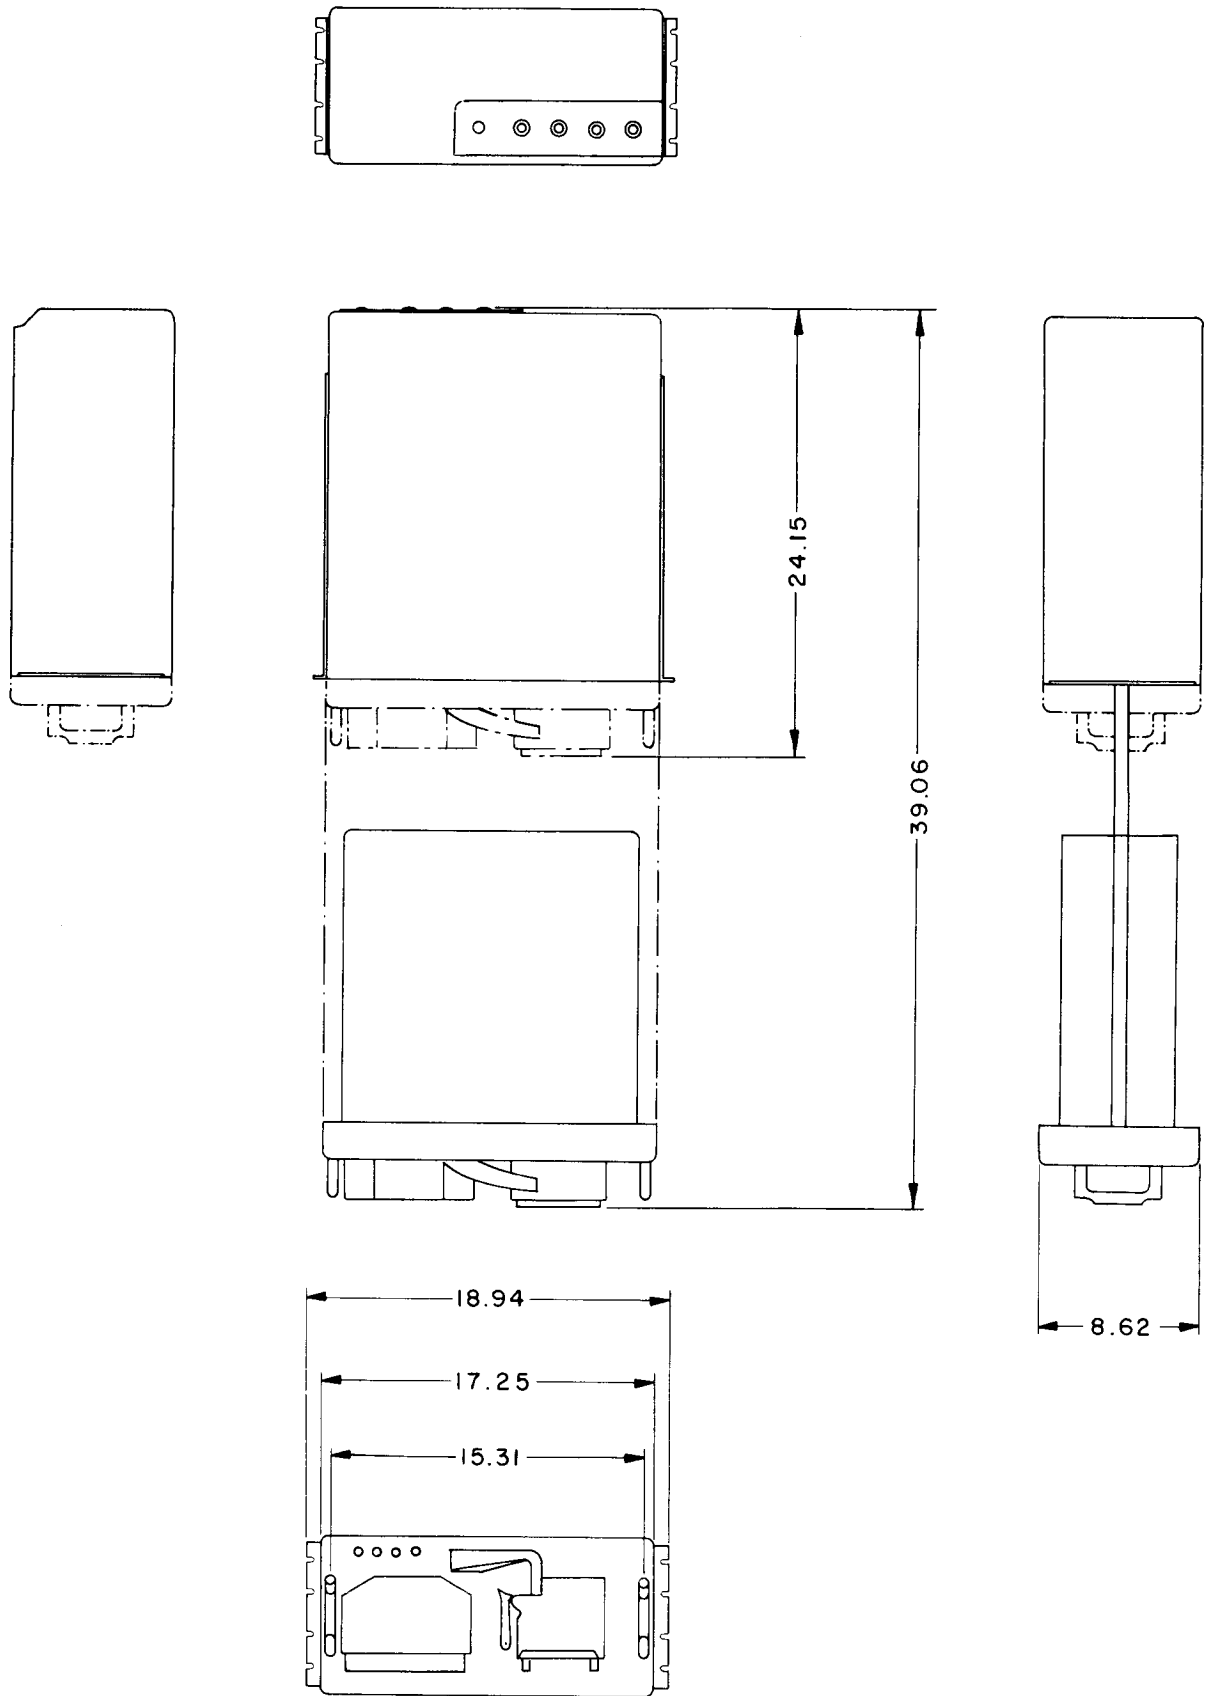

Figure 2-1. Perforator-Reader Outline Drawing
b. OUTLINE DRAWING. - Figure 2-1 shows the outline dimensions and mounting details of the perforator-reader. The unit is shipped in two packages, one contains the equipment case, reader and punch chad chute; the other contains the GP-2 Super Speed Tape Perforator.